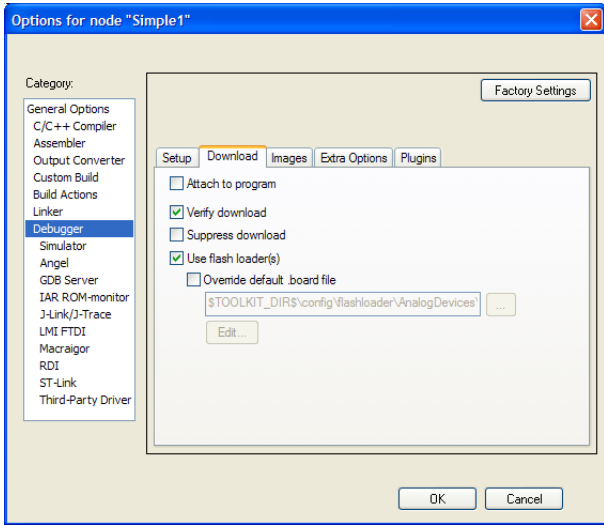

Figure 28. Setting the Debugger Download Options
- Click **Debugger** in the **Category** box, select **Verify download** and **Use flash loader(s)** in the **Download** tab as shown in Figure 28.